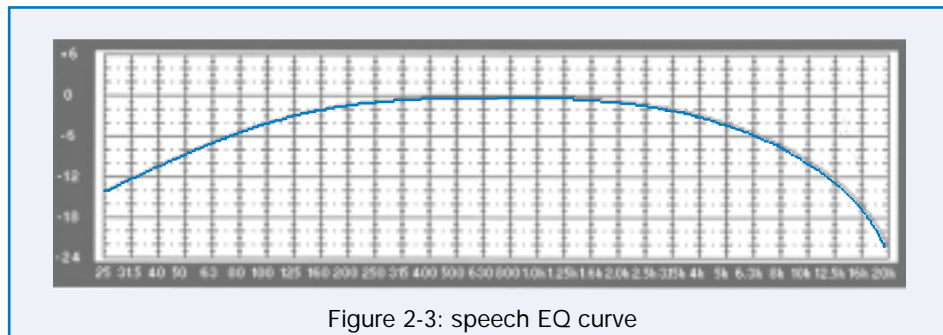

Figure 2-3: speech EQ curve
- **Low Cut Filter (LC) set to 125 Hz, 6 dB per octave.**
- **High Cut Filter (HC) set to 4000 Hz, 6 dB per octave. (See Figure 2-3.)**